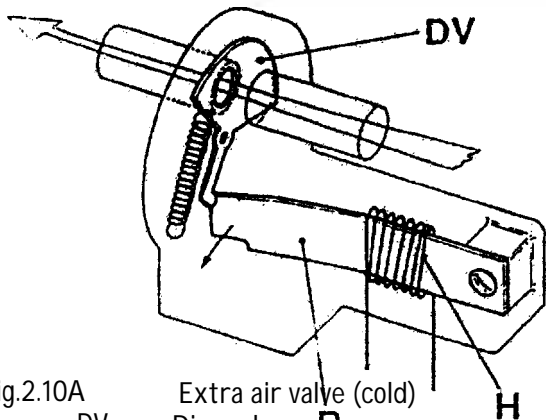

Fig.2.10A
The extra air valve contains a disc valve (DV) as seen in fig. 2.10A. and its basic design is quite simple. When cold, an aperture in the disc and an aperture in the body of the valve are in alignment, allowing air to pass through. When the temperature rises, the disc turns about its central spindle progressively eclipsing the aperture through which the air can pass.